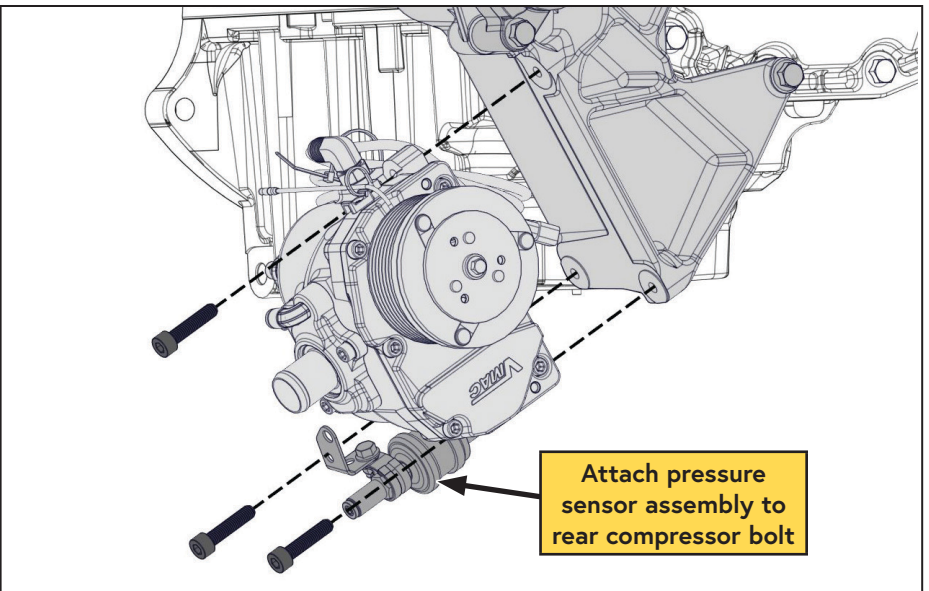

Figure 16 — Mount compressor
- Using the (x3) M8 x 1.25 x 35 mm bolts, mount the compressor assembly, and pressure switch assembly (in the orientation shown) onto the main bracket (Figure 16).